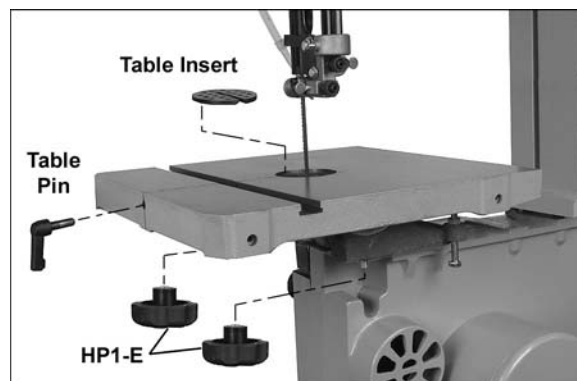

Figure 23
Refer to Figure 23.
2. Rotate the table so that the saw blade will slide through the slot in the table. Then orient the table so the screws will slide into the holes on the trunnion support, as shown in Figure 23. Attach the two *table locking knobs (HP1-E)* to these screws and tighten.